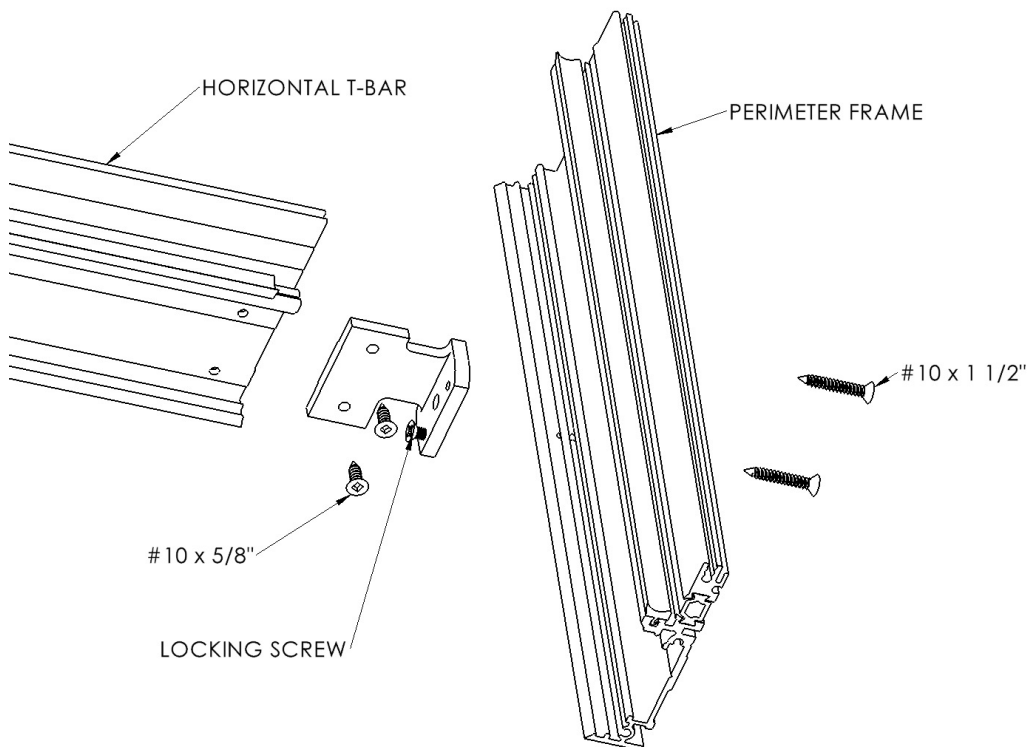

Figure 16
8. Insert the brackets for the horizontal T-bars into the jambs, verify that it is in the correct location, and lock into place using the locking screw. (See Figure 16).